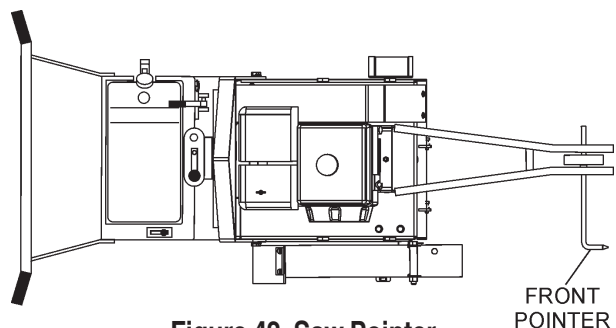

Figure 42. Saw Pointer
- The SP2 CE saw employs a front pointer (Figure 42) that has been precisely aligned with the diamond blade at the factory. Referencing the figure below, accurate tracking is accomplished by referencing the front pointer tip over the cut line. Precise saw direction is accomplished by slight operator pressure against the handle bars.